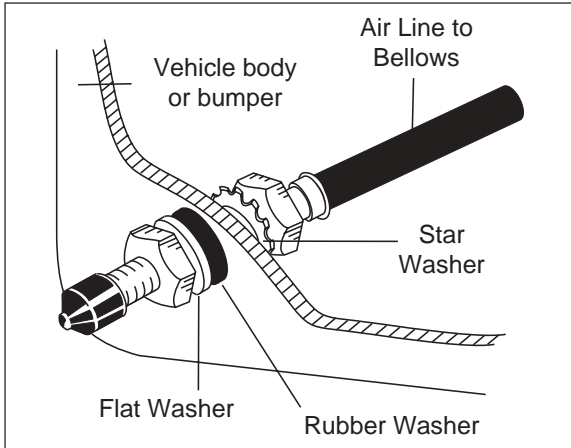

Figure 9
2. Use a standard tube cutter or razor blade to cut the air line into two equal parts. A clean, square cut will ensure against leaks. Drill a 5/16" hole and install the air inflation valve (Figure 9). Run the air line from the inflation valve to the air springs. Route the air line so that it will be protected from the direct heat from the muffler or tail pipe and kept away from sharp edges. The air line should not bend or curve sharply. Secure the air line in place with the supplied nylon tie straps.